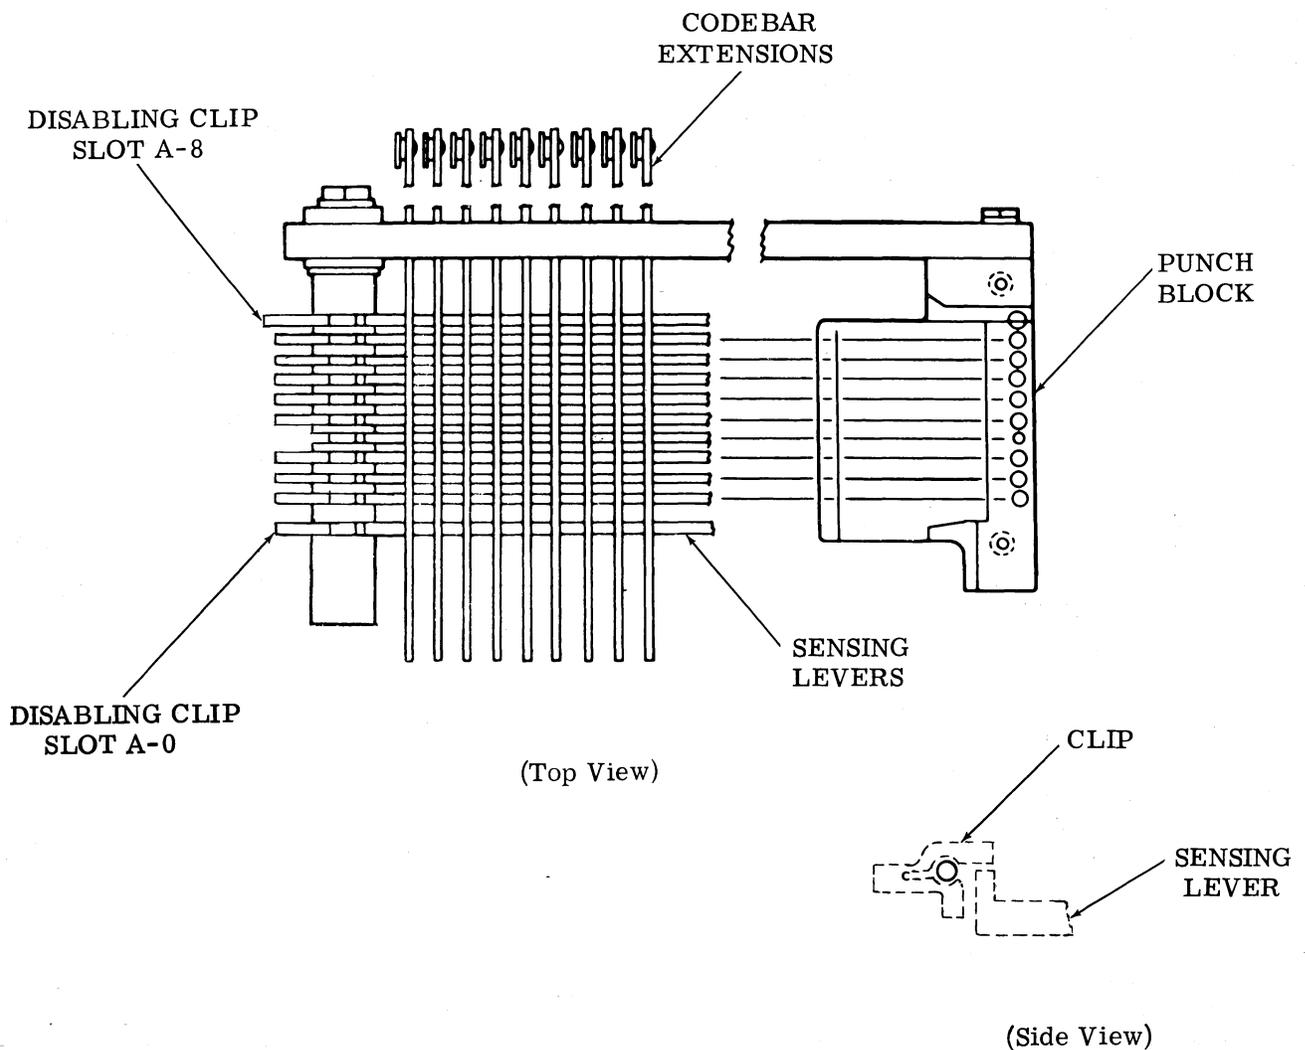

Figure 12 - Tape Punch Disabling Clips
5.13 The punch used with 33 sets (ESS-ADF and 85A1 Switching Systems) is capable of either manual or automatic punch control. Two TP187001 disabling clips are used to provide an option for manual punch operation. These clips are installed in slots A-0 and A-8 on the punch before shipping. Remove the two disabling clips from the slots for automatic operation (Figure 12).